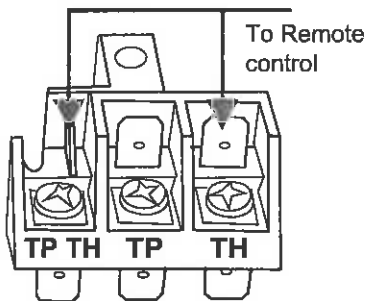

Figure 2
1. Press the START/ TIMER button once enter a "Count-Down" Timer setting. The "Count down" timer has replaced the "Room Temperature" display. The default is 30 minutes (blinking). Range: 30, 60, 90 or 120 minutes. (see figure 2), Press the START/ TIMER button again to select the desired value.
2. Connect the wires to the TH and TPTH terminals of the Millivolt valve. See *Figure 2*.